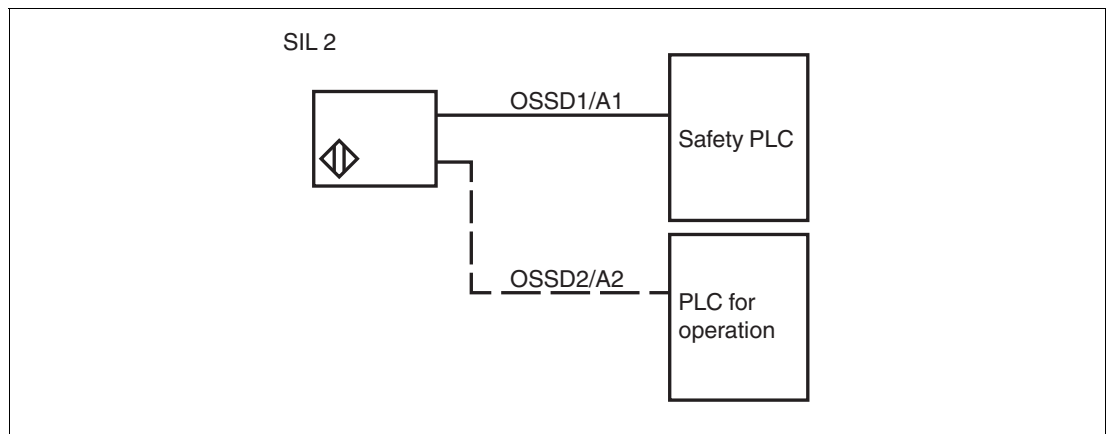

Figure 4.4 Example of a safety loop via the OSSD1 output
- If you are using the sensor in a safety loop for SIL 2, connect the sensor via the OSSD1 output, see Figure 4.4. The OSSD2 output is not used for the safety function. Protect the OSSD2 output connections against short circuit.